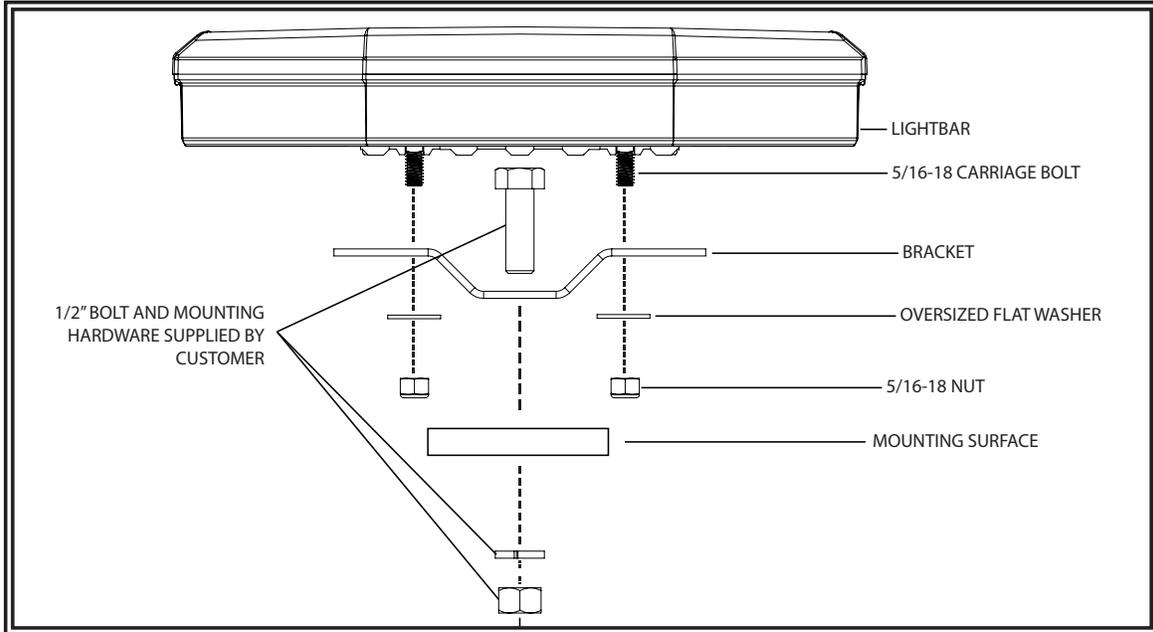

Figure 5
Step 1. Insert the four (4) 5/16"-18 carriage bolts in the channels on the under side of the lightbar and loosely attach the mounting brackets.
Step 3. Secure the brackets to the lightbar with the supplied washers and nuts as shown in FIGURE 5.